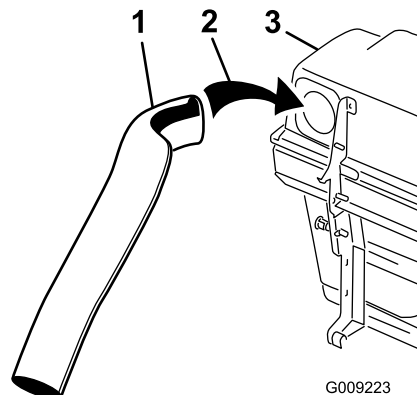
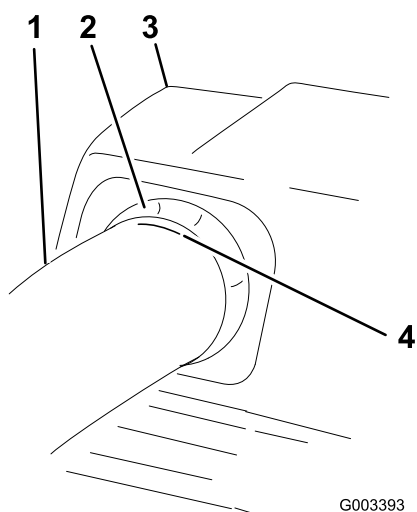

Figure 22
Figure 24
5. Install the upper tube into the bagger opening and pull it back out so the rubber seal is protruding out (Figure 22 and Figure 24).
7. Once the 3/4 inch (19 mm) measurement has been achieved, mark the upper tube on the outside where the rubber seal protrudes out. This is marked to ensure the correct position for the upper tube when drilling the holes and connecting the upper and lower tubes (Figure 24).